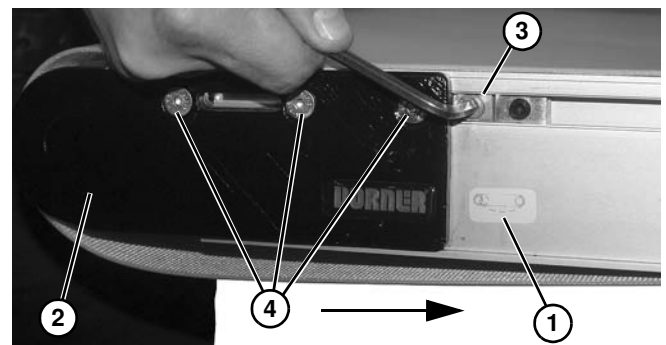

Figure 45
- a. On idler end of conveyor, identified with a  label (**Figure 45, item 1**), push in head plate assembly (**Figure 45, item 2**):
- On both sides of conveyor, loosen and move cam tracking assemblies (**Figure 45, item 3**) (if equipped) away from head plates.
- Loosen fastening screws (**Figure 45, item 4**) and push head plate assembly inward.